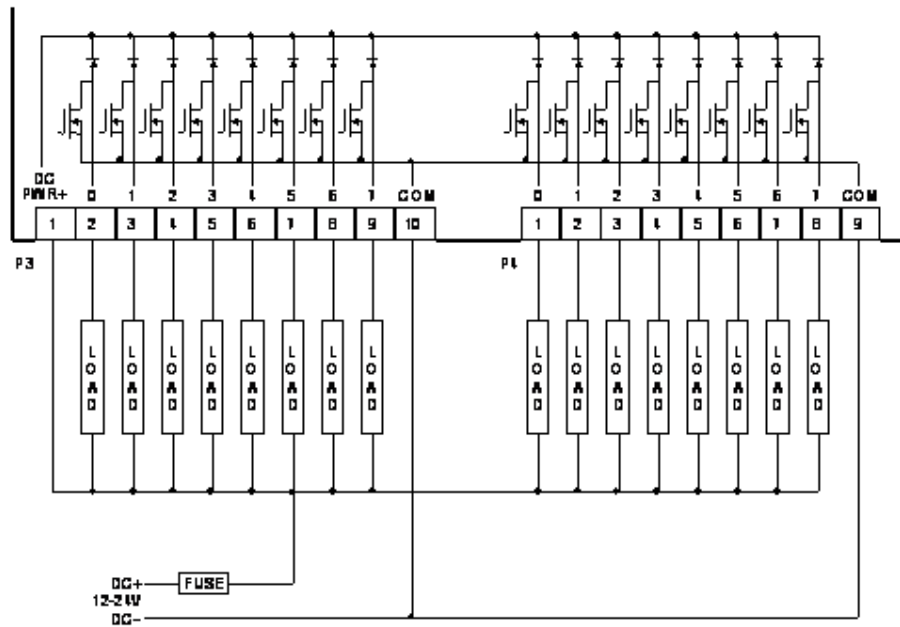
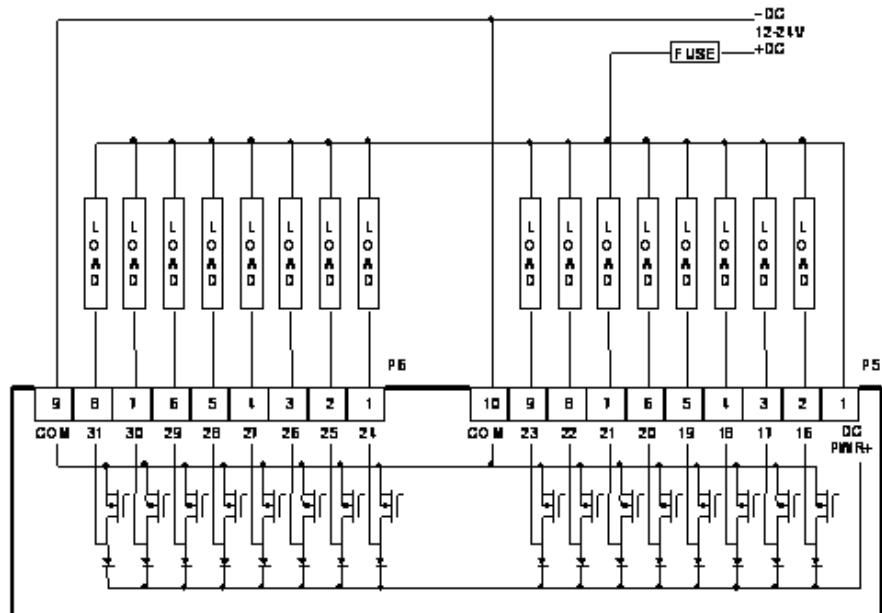

Figure 2: Typical Field Wiring Digital Outputs 0-15
Figure 3: Typical Field Wiring Digital Outputs 16-31
The 5411 module provides 32 DC outputs. The outputs are sinking MOSFETs. The loads are connected between a 12 to 24Vdc power source and the digital outputs. The outputs are divided into two groups of 16. Each group of 16 loads shares a common power source. This is the same power source that will provide power to the 5411 module. See **Figure 2: Typical Field Wiring Digital Outputs 0-15** and **Figure 3: Typical Field Wiring Digital Outputs 16-31**. Controller, modem and I/O modules use screw termination style connectors for termination of field wiring. They accommodate solid or stranded wires from 22 to 12 AWG.
Refer to **Figure 2: Typical Field Wiring Digital Outputs 0-15** and **Figure 3: Typical Field Wiring Digital Outputs 16-31** for Digital Output wiring examples.
- Inductive loads require EMF suppression diodes. There are suppression diodes built into the 5411. For these diodes to be effective the inductive loads are connected to the DC power terminal on the 5411 module as shown in **Figure 2: Typical Field Wiring Digital Outputs 0-15** and **Figure 3: Typical Field Wiring Digital Outputs 16-31**.